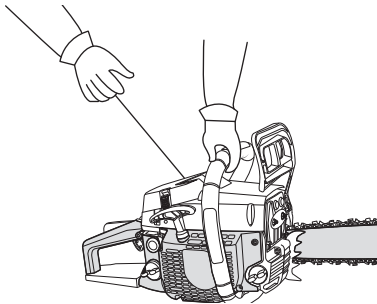

Fig. 9
3. Place the unit on a firm, flat surface. Crouch in the starting position and hold the unit firmly, as shown (Fig. 9). Grip the front handle firmly with the left hand. Place the right foot through the rear handle/ boot loop.